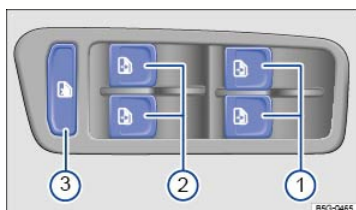

Fig. 37 In the driver door: Switches for the front and rear power windows (4-door version shown).
Key to ⇒ *Fig. 37* :
The safety switch → Fig. 37③ deactivates the power windows in the rear doors. The yellow indicator light in the switch comes on (4-door models only).